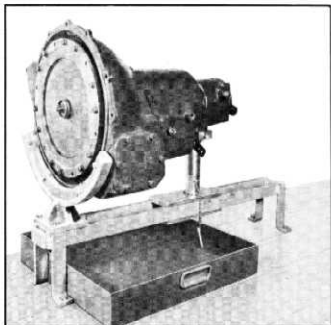

Fig. 64—Transmission in Assembly Fixture
1. Place transmission in assembly fixture J-3361 (fig. 64).